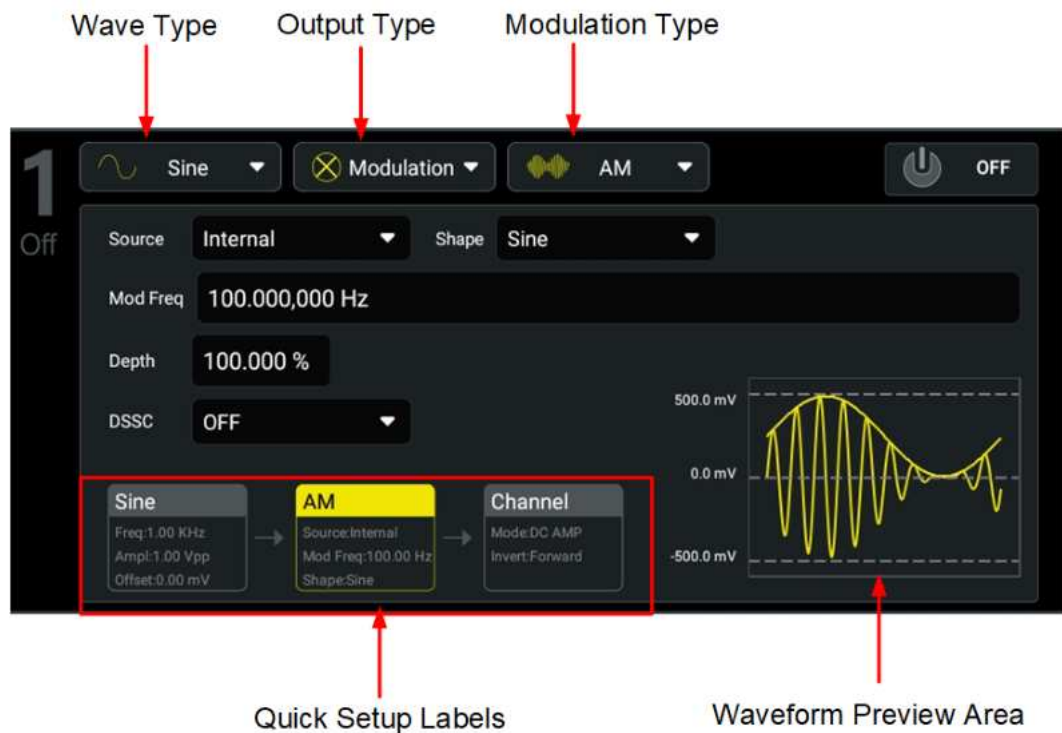

Figure 21.4 Modulation Mode Interface
In Amplitude Modulation (AM), a modulated waveform consists of a carrier waveform and a modulation waveform. The amplitude of the carrier waveform is varied by the instantaneous voltage of the modulating waveform. In Figure 21.4 interface, click or tap the "Modulation Type" drop-down button to select "AM" and set its parameters.
In Frequency Modulation (FM), a modulated waveform consists of a carrier waveform and a modulating waveform. The frequency of the carrier waveform is varied by the instantaneous voltage of the modulating waveform. In Figure 21.4 interface, click or tap the "Modulation Type" drop-down button to select "FM" and set its parameters.
In Phase Modulation (PM), a modulated waveform consists of a carrier waveform and a modulation waveform. The phase of the carrier waveform is varied by the instantaneous voltage of the modulating waveform. In Figure 21.4 interface, click or tap the "Modulation Type" drop-down button to select "PM" and set its parameters.
With Amplitude Shift Keying (ASK), you can configure the instrument to "shift" its output amplitude between two preset values (called the "carrier amplitude" and the "modulation amplitude"). In Figure 21.4 interface, click or tap the "Modulation Type" drop-down button to select "ASK" and set its parameters.
With Frequency Shift Keying (FSK), you can configure the instrument to "shift" its output frequency between two preset values (called the "carrier frequency" and the "hop frequency"). In Figure 21.4 interface, click or tap the "Modulation Type" drop-down button to select "FSK" and set its parameters.
In Phase Shift Keying (PSK), the carrier waveform is phase "shifted" between two phase settings ("carrier phase" and "modulation phase"). In Figure 21.4 interface, click or tap the "Modulation Type" drop-down button to select "PSK" and set its parameters.